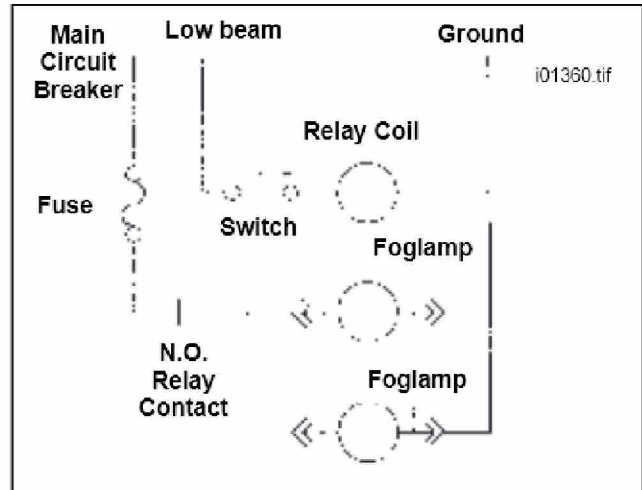

Figure 1. Fog Lamp Schematic
1. See Figure 1. The electrical schematic and connection points on motorcycle are shown.